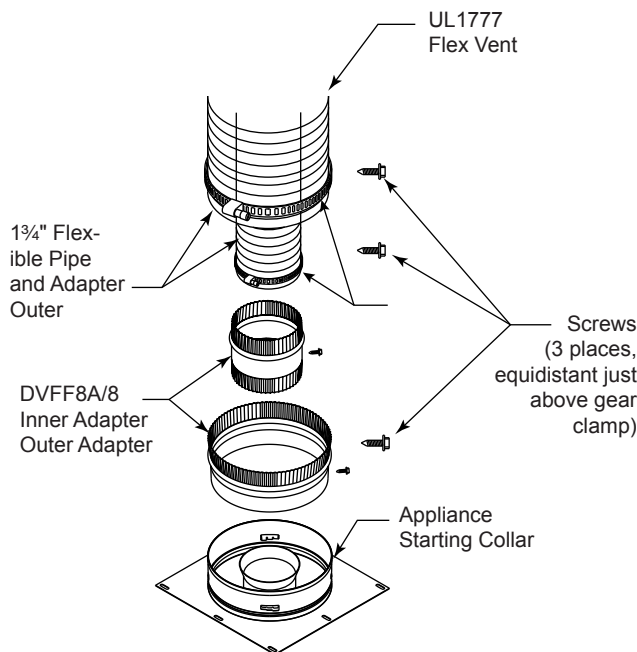

Figure 41 -
2. The flex adapter starter kit (DVFF8A/8) is used to attach flex venting to the appliance starting collar. It includes 5" inner and 8" outer adapter rings. *Figure 41*
- A. Installing the inner flex adapter and pipe. *Figure 41*
- B. Installing the outer flex pipe. *Figure 41*